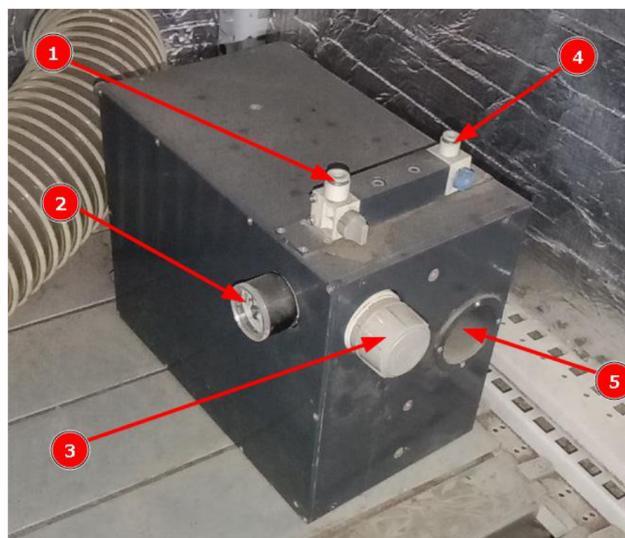

Figure A2.1
1. Connect the compressor to the inlet fitting (1, see Figure A2.1).
2. Using the regulator (3) of the dehumidifier, set the pressure on the pressure measurement gauge (2) - 0.7-0.8 MPa.
4. Check the readiness of the dehumidifier by the indicator (5). This indicator should be blue.